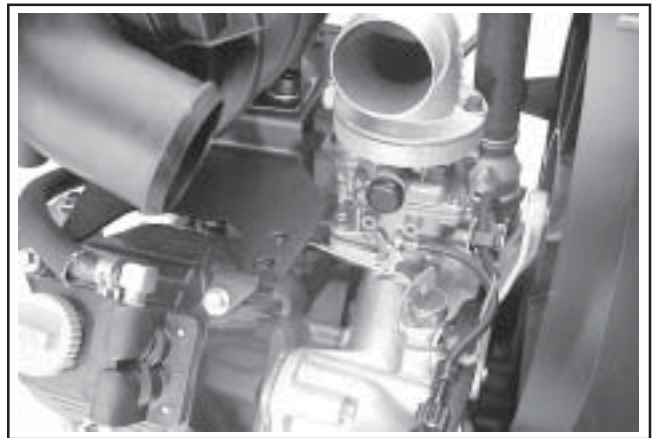

Figure 5-4. Carburetor Mounting Detail.
8. Once proper float height is obtained, carefully lower the carburetor upper body onto the carburetor lower body, connecting the choke linkage. Install the four screws. Torque screws to **1.7 N·m (15 in. lb.)**. See Figure 5-4.